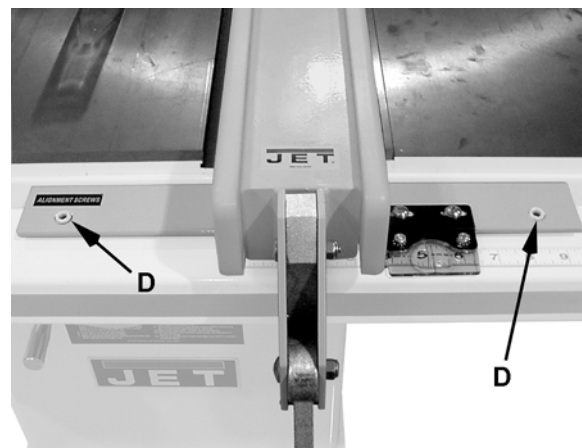

Figure 17
9. Raise or lower two nylon adjustment screws (D, Fig. 17) *the same number of turns* until the space between the bottom of the fence and the table is the same. Care must be taken to raise or lower the fence on each side equally or the fence may not be 90° to the table after the height adjustment is performed.